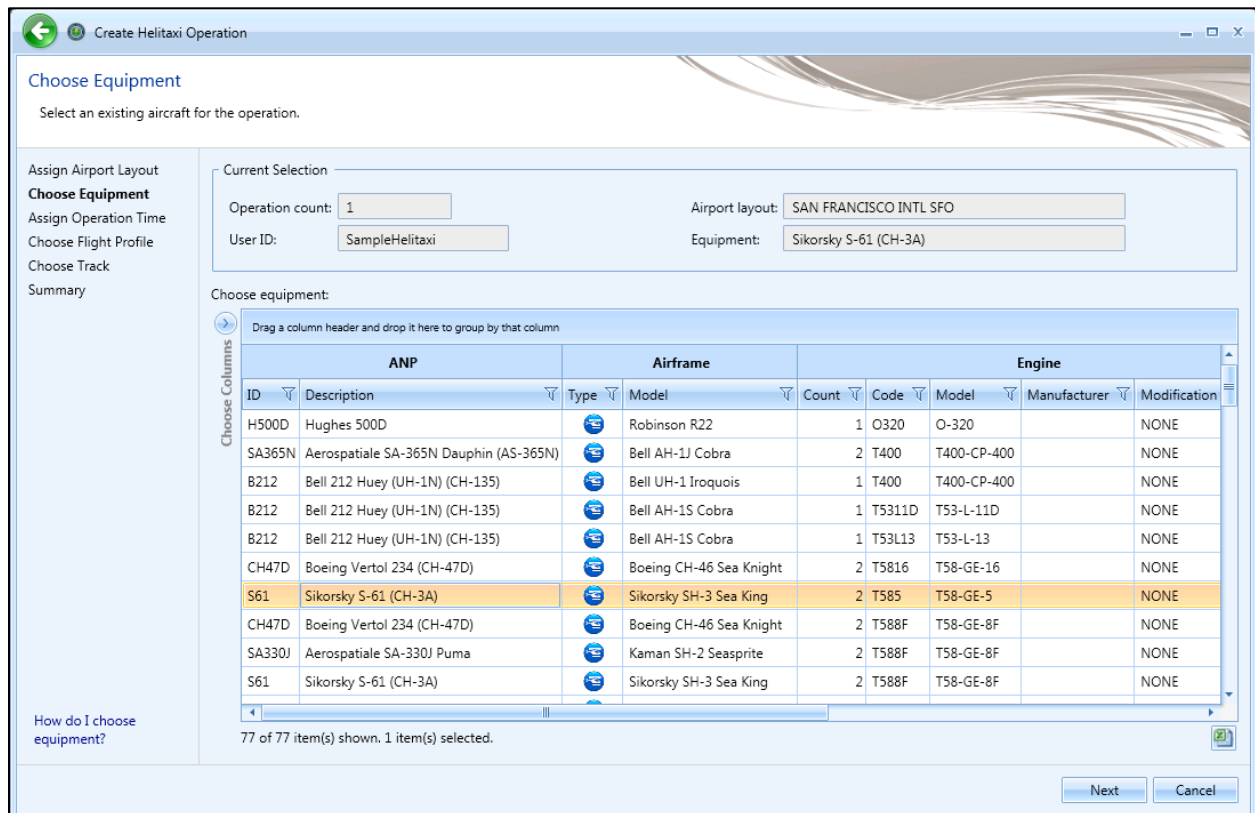
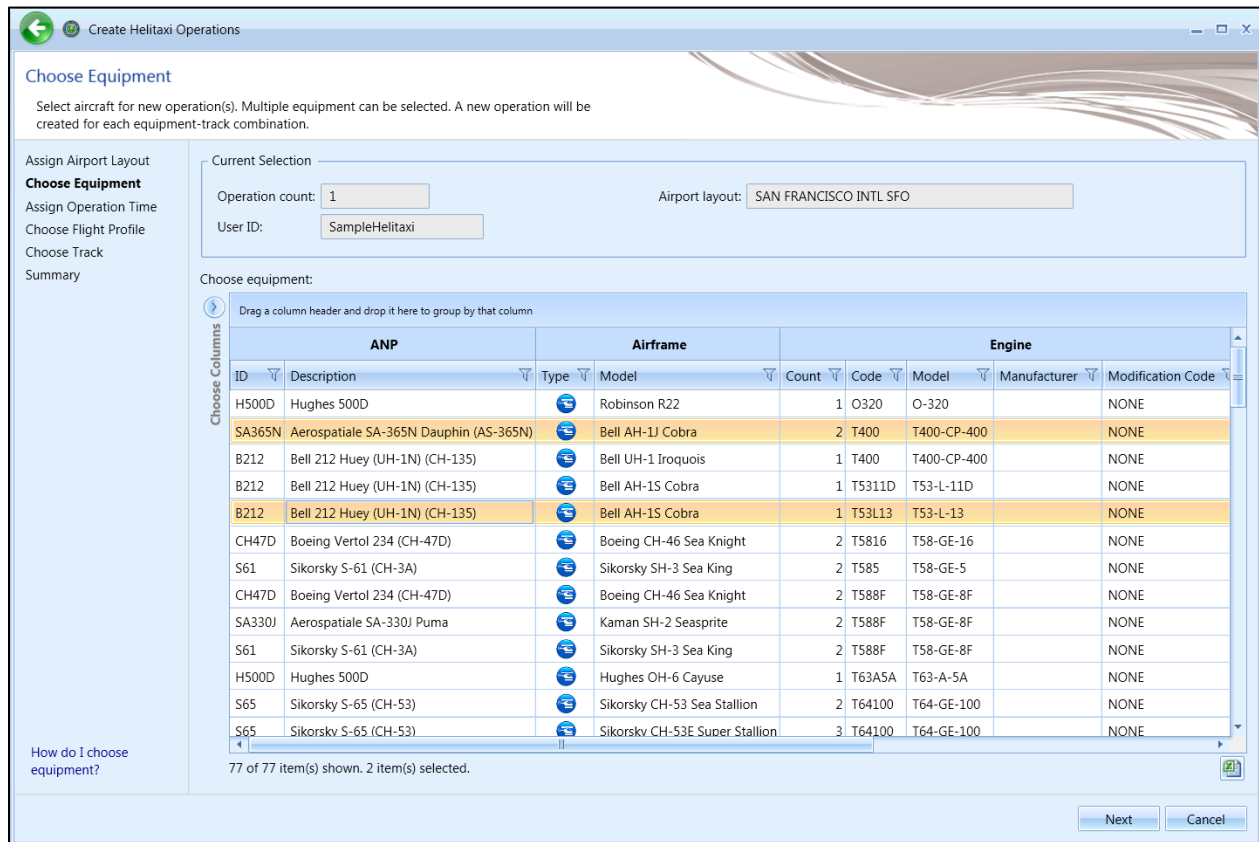

Figure 6-46 Create Helitaxi Operation – Choose Equipment (Single)
Figure 6-47 Create Helitaxi Operation – Choose Equipment (Bulk)
1. Select the desired helicopter from the *Choose equipment* list (Figure 6-46). Multiple helicopters can be selected in this step for bulk operation creation (Figure 6-47). To deselect equipment, click on the highlighted entry again.